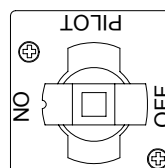

Figure 2
3. With the pilot lit, push down and slowly turn the knob to the ON position (see Figure 2 on Page 3-1).